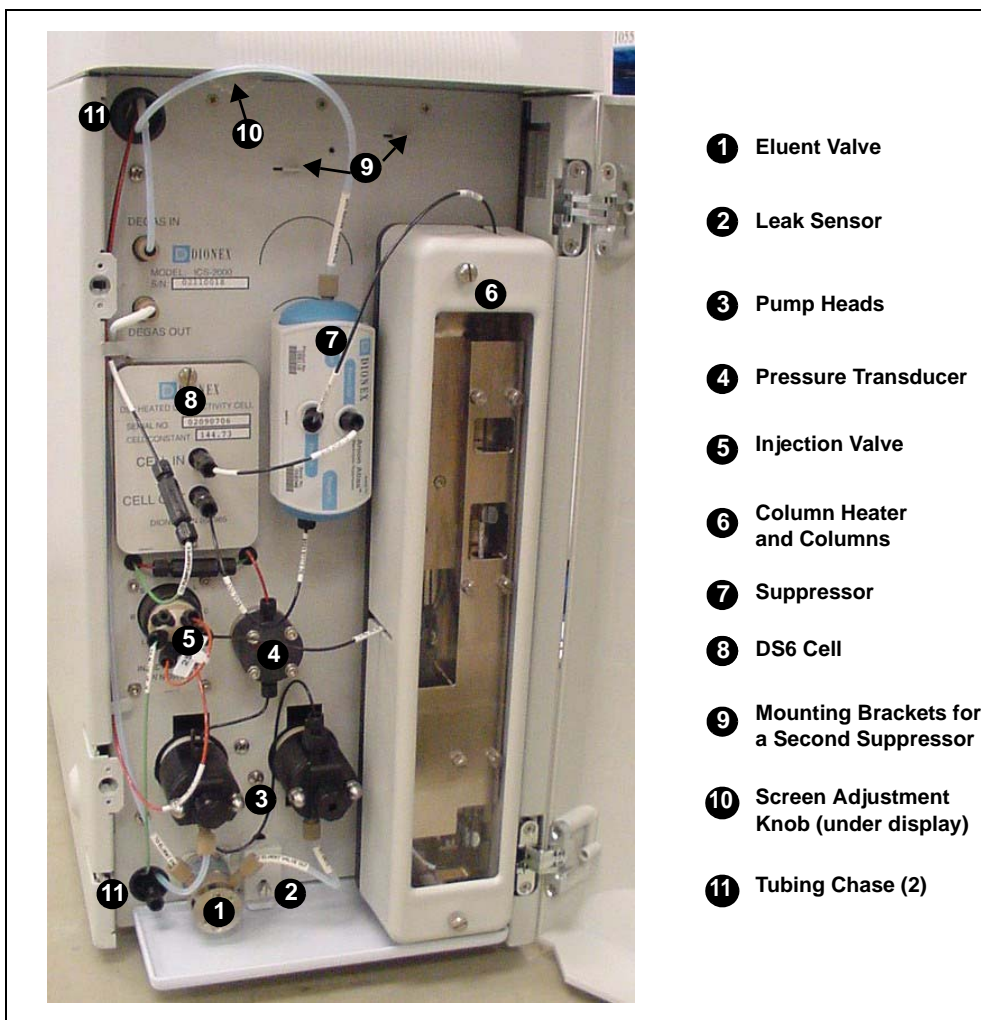

Figure 2-8. ICS-2000 Component Panel
**NOTE** To adjust the screen contrast, open the front door and adjust the knurled knob under the screen (see Figure 2-8).
Figure 2-8 shows the user-accessible components installed on the component panel behind the ICS-2000 front door.